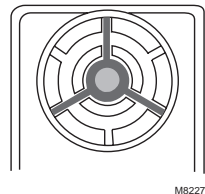
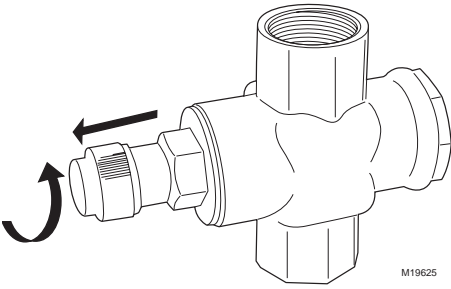

Fig. 2. Valve position indicator.
Fig. 3. Removing protective cover from valve.
Fig. 2 shows the M6410A, M7410F valve position indicator. To mount the actuator, refer to Fig. 3 through 4:
1. Remove valve protective cover (Fig. 3).